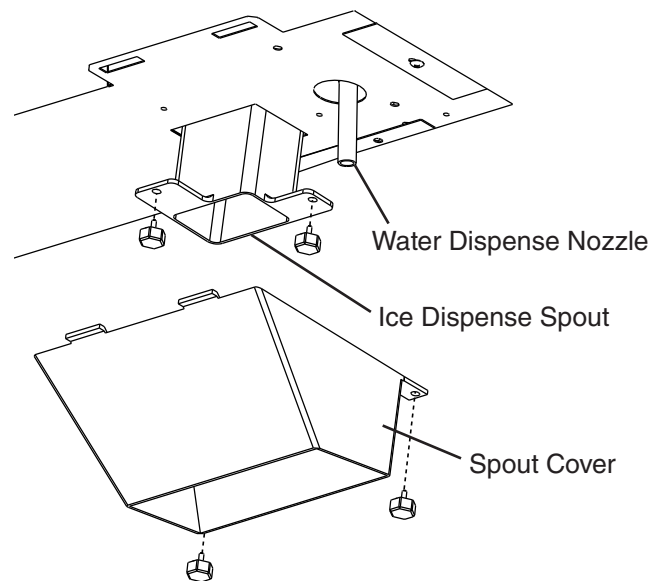

Fig. 7
- 8) Remove the spout cover, ice dispense spout, and water dispense nozzle. See Fig. 7.